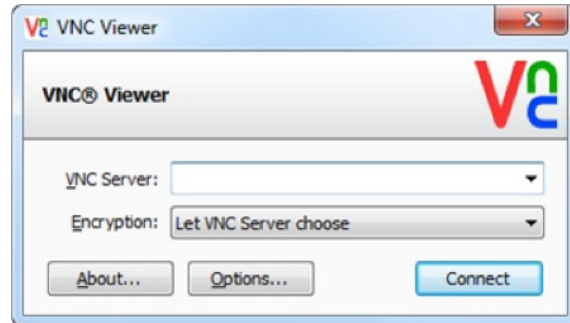

Figure 77: Real VNC Viewer Installation Screen
14. Open the program by clicking the **Connect** button. (Figure 77)